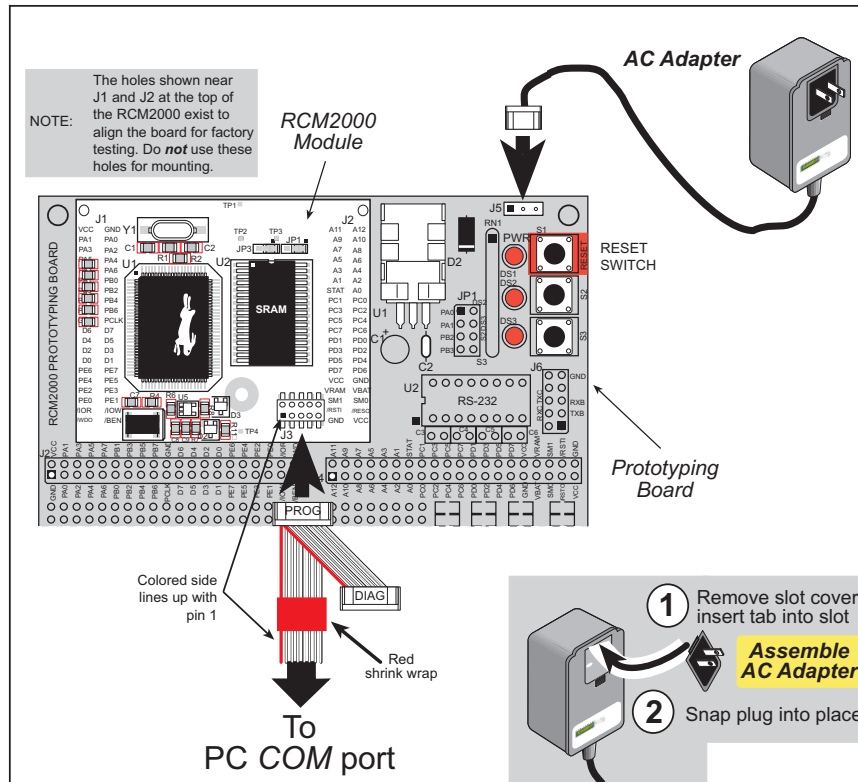

Figure 2. RCM2000 Power and Programming Connections
Connect the 10-pin connector of the programming cable labeled **PROG** to header J3 on the RCM2000 module as shown in Figure 2 below. Be sure to orient the red edge of the cable towards pin 1 of the connector. (Do not use the **DIAG** connector, which is used for a normal serial connection.)
First, prepare the AC adapter for the country where it will be used by selecting the plug. The RCM2000 Development Kit presently includes Canada/Japan/U.S., Australia/N.Z., U.K., and European style plugs. Snap in the top of the plug assembly into the slot at the top of the AC adapter as shown in Figure 2, then press down on the spring-loaded clip below the plug assembly to allow the plug assembly to click into place.
- The programming cable must be connected to the RCM2000. (The colored wire on the programming cable is closest to pin 1 on header J3 on the RCM2000, as shown in Figure 2.) The other end of the programming cable must be connected to the PC serial port. The COM port specified in the Dynamic C **Options** menu must be the same as the one the programming cable is connected to.